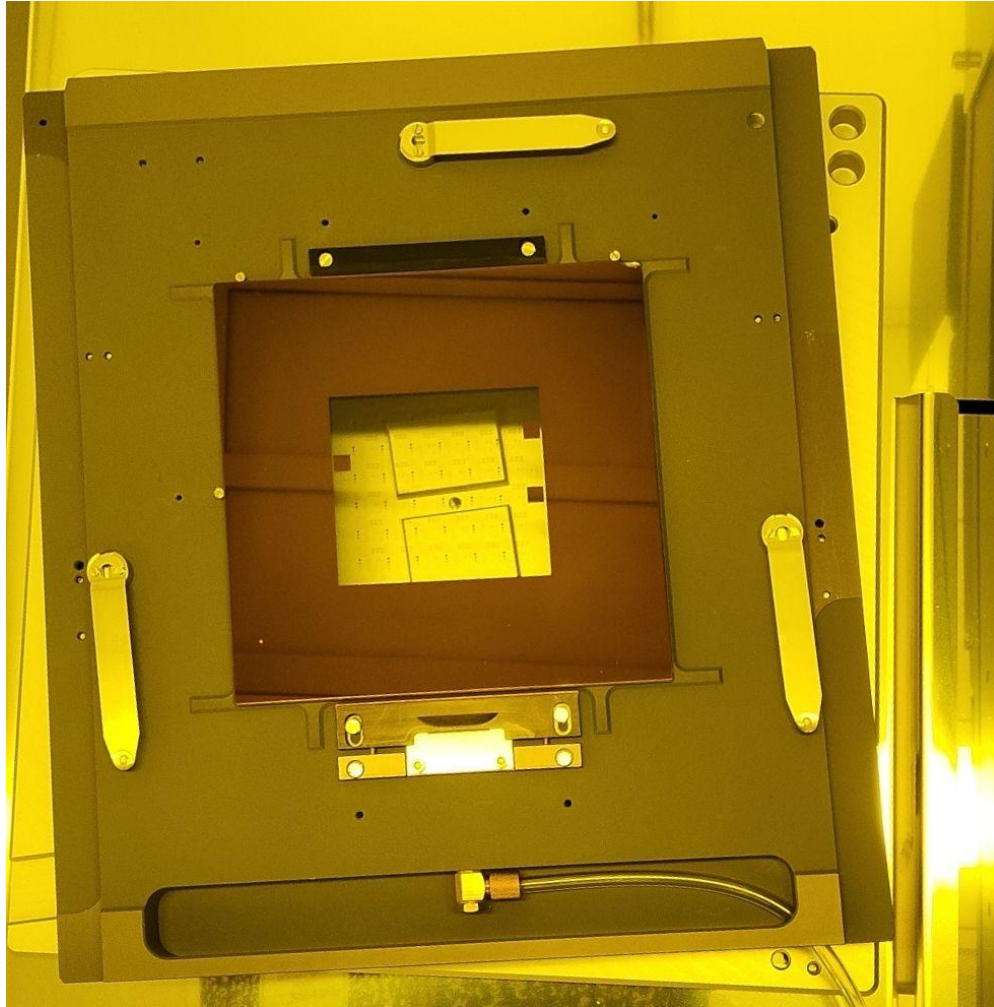

Figure 3.
5. Place the photomask on the mask holder. A mask holder with a mask installed is shown in Figure 3.